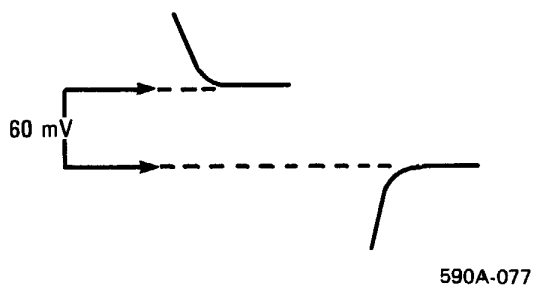

Figure 2. Dead Zone Adjustment Waveform
- e. Adjust A5R194 so that the separation between the attack and decay waveforms is 60 mV  $\pm$  5 mV, see figure 2.